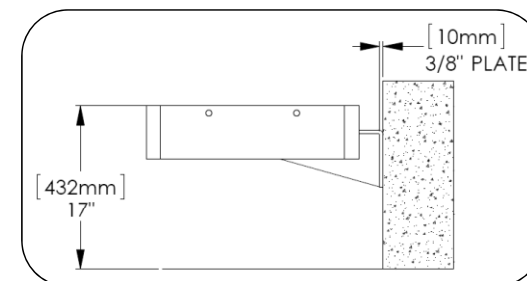

Fig. 1.5
1. Locate bench in position using temporary blocking. Verify bench seat is level. See Fig. 1.5 for seat height.